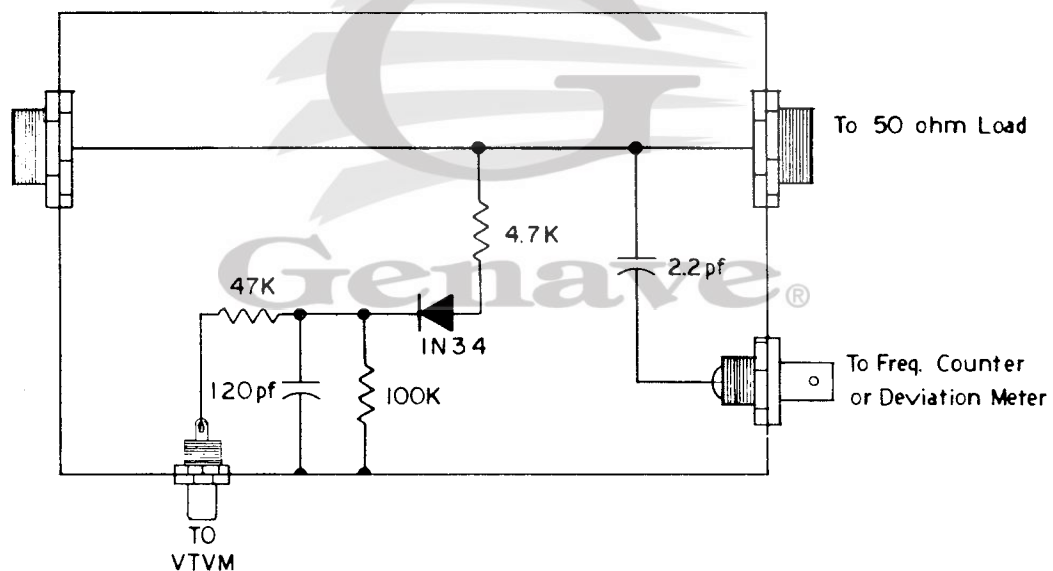

Figure 4-4-4
1. Attach a 50 ohm dummy load to the RF output connector, J201, through a power meter or relative output indicating device (See Figure 4-4-4).
5. If the relative output indicating device of Figure 4-4-4 is used, connect the VTVM DC probe to the relative output indicator.